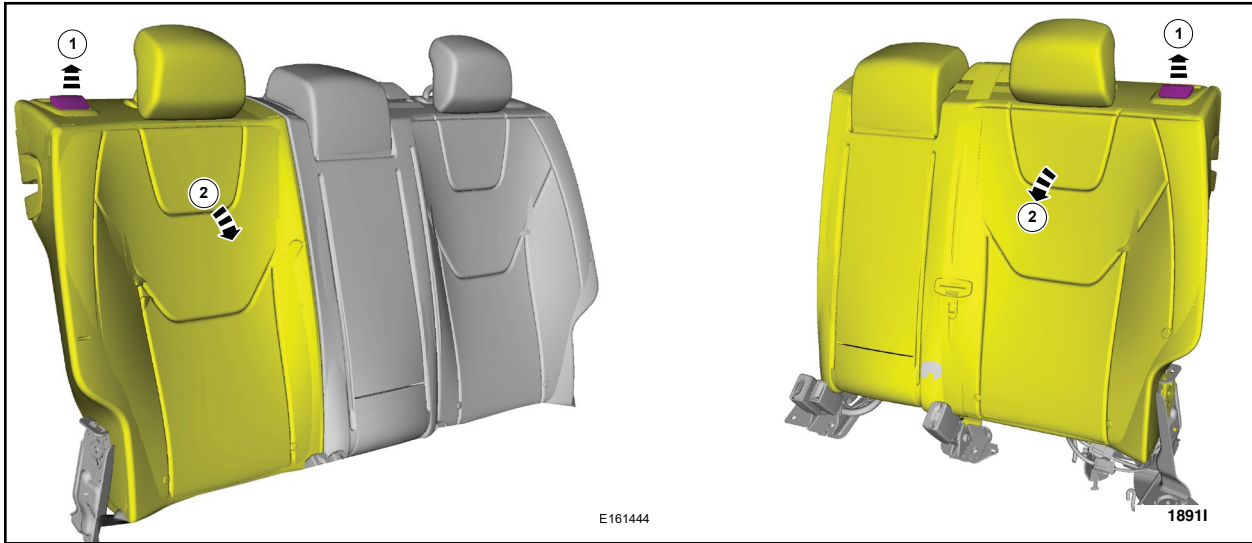

FIGURE 1
3. Lower both the rear seat backrests. See Figure 1.